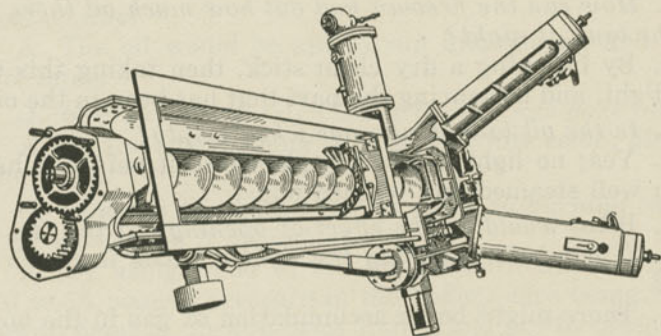

Fig. 305a. Duplex Mechanical Stoker.
A. As seen in Fig. 305a, beneath the tender and cab decks there is a crushing and conveying system for carrying the coal from the tender to the engine, by means of a driving engine controlled by a steam valve. Beneath the cab deck is an elevating system with a hopper in which the coal is divided and delivered to two elevators that pass it to distributors set in the back head. The shovel sheet has an 18-inch opening from the coal gates to the slope of the tank; this opening being cov-